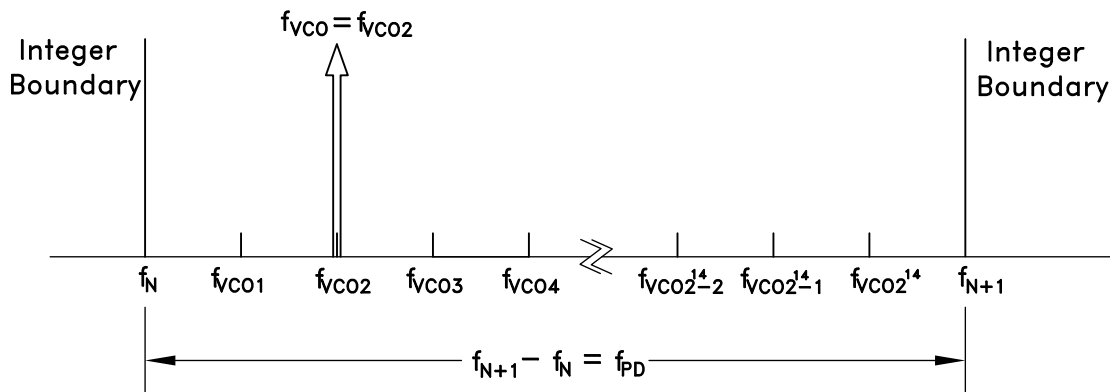

Figure 44. Exact Frequency Tuning
and  $f_{VCOk}$  are the channel step frequencies where  $0 < k < 2^{24}-1$ , As shown in Figure 44.
Some fractional PLLs are able to achieve this by adjusting (shortening) the length of the Phase Accumulator (the denominator or the modulus of the Delta-Sigma modulator) so that the Delta-Sigma modulator phase accumulator repeats at an exact period related to the interval frequency ( $f_{VCOk} - f_{VCO(k-1)}$ ) in Figure 44. Consequently, the shortened accumulator results in more frequent repeating patterns and as a result often leads to spurious emissions at multiples of the repeating pattern period, or at harmonic frequencies of  $f_{VCOk} - f_{VCO(k-1)}$ . For example, in some applications, these intervals might represent the spacing between radio channels, and the spurious would occur at multiples of the channel spacing.
If it is desirable to have multiple, equally spaced, exact frequency channels that fall within the same interval (ie.  $f_N \leq f_{VCOk} < f_{N+1}$ ) where  $f_{VCOk}$  is shown in Figure 44 and  $1 \leq k \leq 2^{14}$ , it is possible to maintain the same integer-N (Reg 03h) and exact frequency register (Reg 0Ch) settings and only update the fractional register (Reg 04h) setting. The Exact Frequency Channel Mode is possible if (EQ 17) is satisfied for at least two equally spaced adjacent frequency channels, i.e. the channel step size.
To configure the HMC833LP6GE for Exact Frequency Channel Mode, initially and only at the beginning, integer (Reg 03h) and exact frequency (Reg 0Ch) registers need to be programmed for the smallest  $f_{VCO}$  frequency ( $f_{VCO1}$  in Figure 44), as follows:
1. Calculate and program the integer register setting Reg 03h =  $N_{INT} = \text{floor}(f_{VCO1}/f_{PD})$ , where  $f_{VCO1}$  is shown in Figure 44 and corresponds to minimum channel VCO frequency. Then the lower integer boundary frequency is given by  $f_N = N_{INT} \cdot f_{PD}$ .
$$\text{Reg04h} = N_{FRAC} = \text{ceil} \left( \frac{2^{24} (f_{VCOk} - f_N)}{f_{PD}} \right) \quad \text{where } f_N = \text{floor}(f_{VCO1}/f_{PD}), \text{ and } f_{VCO1}, \text{ as shown in Figure 44, represents the smallest channel VCO frequency that is greater than } f_N.$$
4. To change from channel 1 ( $f_{VCO1} = 2800.2$  MHz) to channel 2 ( $f_{VCO2} = 2800.3$  MHz), only **Reg 04h** needs to be programmed, as long as all of the desired exact frequencies  $f_{VCOk}$  (Figure 44) fall between the same integer-N boundaries ( $f_N < f_{VCOk} < f_{N+1}$ ). In that case